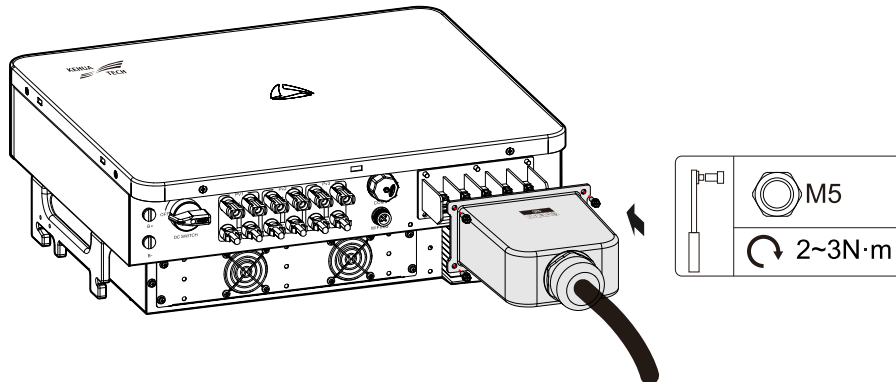

Figure3-25 Fasten the AC output waterproof cover
- Step 3 After wiring, fasten the AC output waterproof cover to the inverter by equipped four stainless steel combination bolt M5*12 and then fasten the external AC output nut, as shown in Figure3-25.